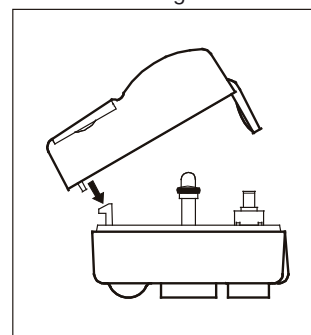

Fig. 3
3. Replace the top (fit together with the bottom to ensure a seal) and refit the screw with the screwdriver. Figs. 3 and 4
5. Fit the top and screw on. Figs. 3 and 4